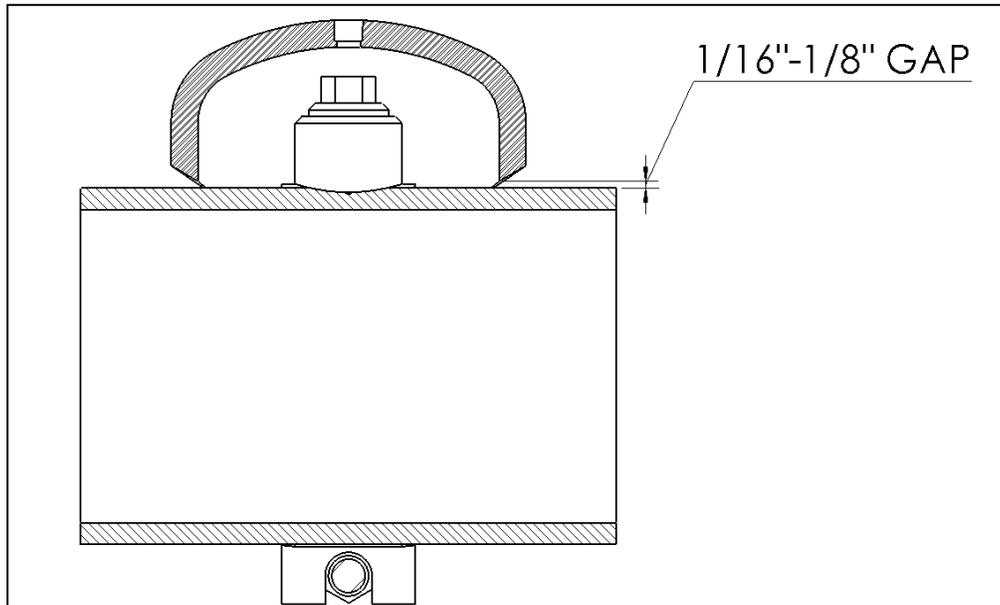

Figure 3
6. Tac-weld the Weld+Cap to the pipe line with a 1/16"-1/8" root gap as shown in figure 3.